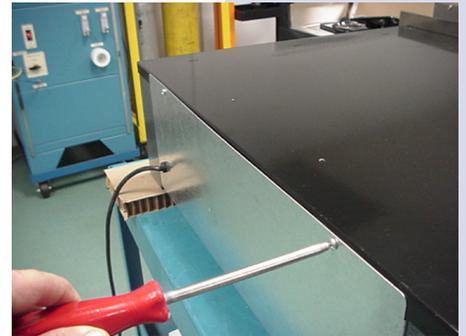

Figure 3
5. Remove the 2 screws located at rear of the appliance. (Figure 3)